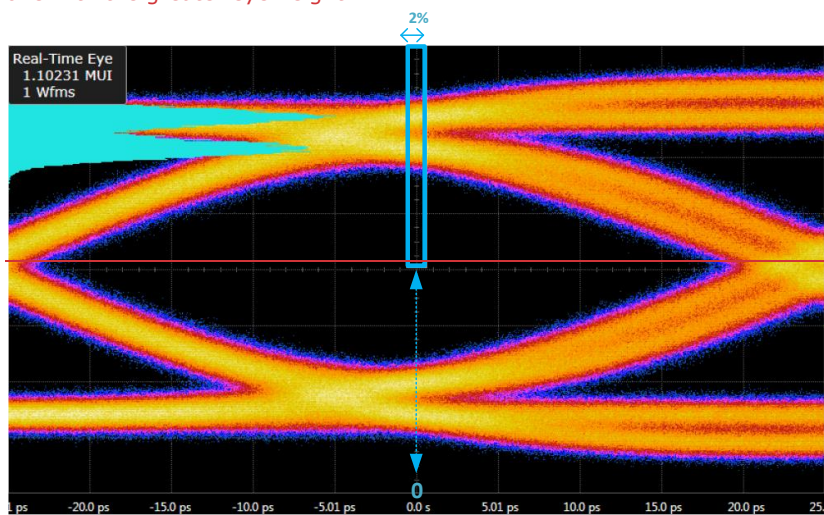

Figure 15. USB4 RX TP3 Eye Height Upper Location Measurement
6. Eye height shall be at the "0" of the real time eye horizontal position. A Histogram shall be applied to the lower and upper section of the eye, with +/- 1% deviation in time axis in order to calculate the eye height. Use min value from upper histogram result and max value from lower histogram results. Eye height is the delta between them. See Figure 15 and Figure 16.
7. Capture 5 times (each time over new 1MUI record length) min value of both eye height (EH) and eye width (EW). Calculate Area by EH * EW.
7. Capture 5 times (each time over new 1MUI record length) min value of both eye height (EH) and eye width (EW). Calculate Area by $EH * EW$.